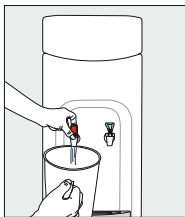
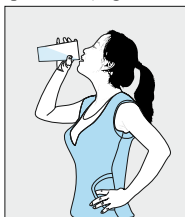

Figure 5
Figure 6
4. Do not draw water from the cooler for about 30 minutes to let the water cool or heat. Optimum water temperatures will be reached after several hours of operation (Figure 5 and Figure 6).